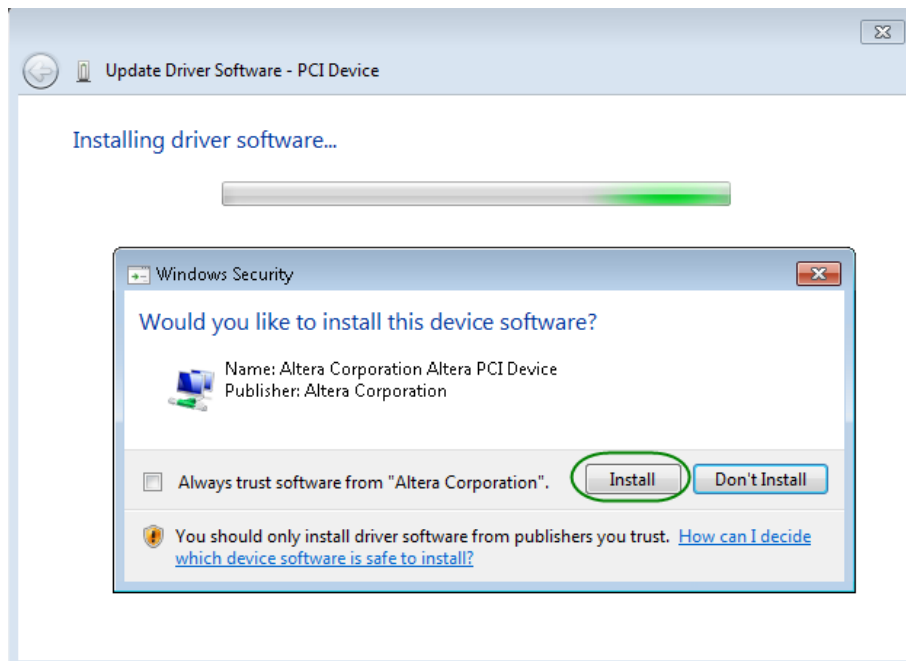

Figure 5-6 Click Install in the dialog of Windows Security
8. When the **Windows Security** dialog appears, as shown **Figure 5-6**, click the **Install** button.